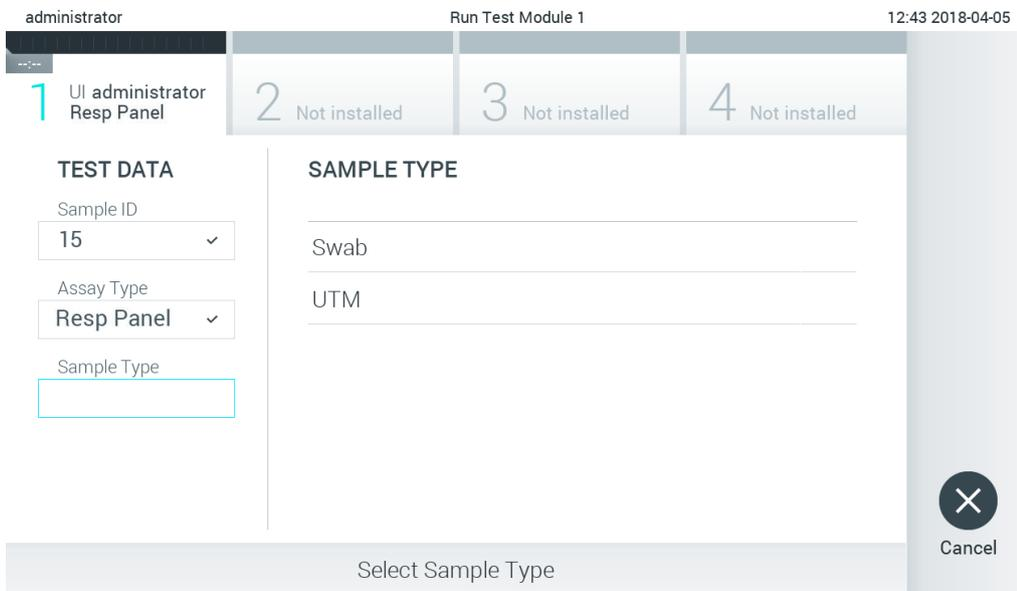

Figure 85. Selecting sample type.
5. The **Assay Type** field will be automatically entered and, if required, an appropriate **Sample Type** must be manually selected from the list (Figure 85).